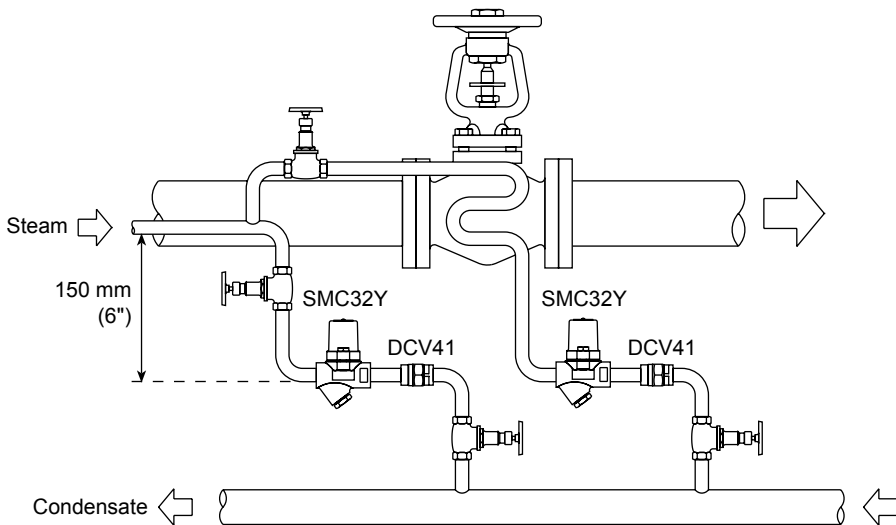

Fig. 3 Non-critical tracing
- 3.4** The trap is designed for installation in any position, horizontal or vertical, preferably with a drop leg immediately preceding the trap typically 150 mm (6") see Figure 3.
- 3.5** Always fit a non-return (check) valve downstream of any steam traps which discharge into condensate return lines where backpressure is experienced. This is most commonly caused by a rising condensate line. The check valve will prevent the steam space flooding when the inlet pressure is reduced or the steam is shut off. Use a suitable valve such as the Spirax Sarco DCV41, see Figure 3.